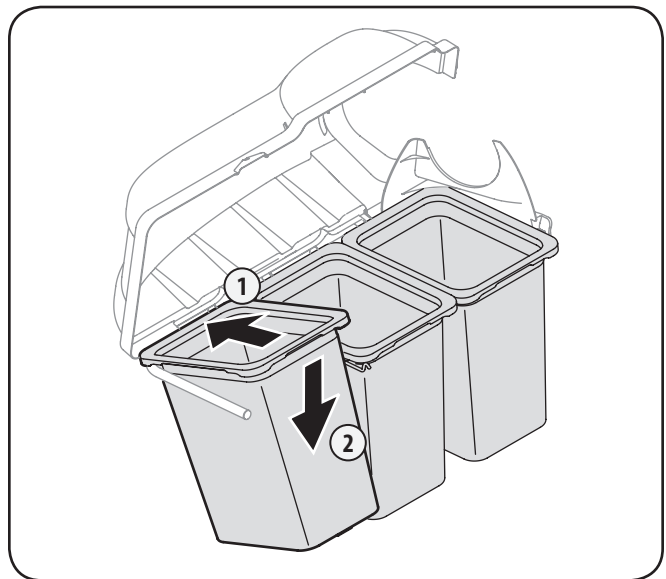

Figure 4-16
8. Install the bag assemblies onto the bag support brackets by inserting the front edge in first, as seen in Figure 4-16, and setting the back edge down until it fits into the assembly.